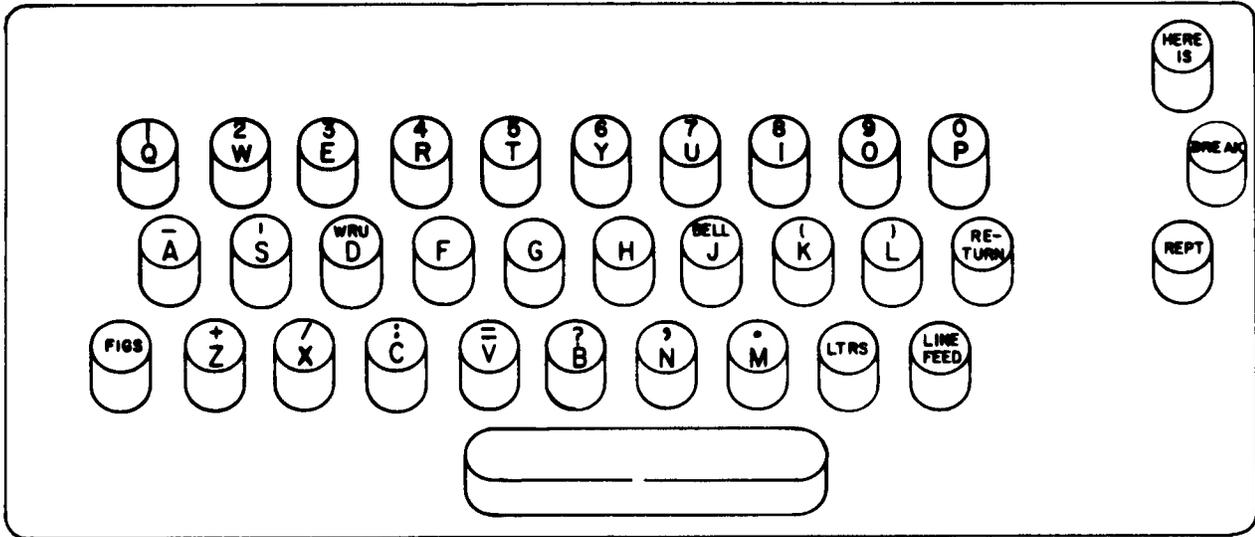

Figure 1 - Model 32 (3 Row 5 Level) Keyboard
1.01 This section provides adjustment information for mechanically reset Model 32 keyboards (Figures 1 and 2). It is reissued to include engineering changes, make corrections, and to add alphanumeric codes to the adjustment titles. Since it is a general revision, marginal arrows to indicate changes and additions are omitted. The alphanumeric codes provide a universal method for adjustment identification.